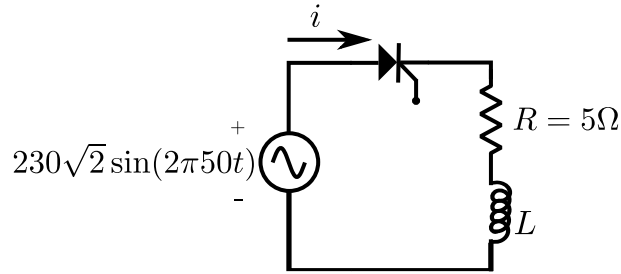

Fig. 1: Half-wave controlled rectifier feeding RL load.
1. A half-wave SCR controlled rectifier with a 230 V, 50 Hz input is feeding a RL load with  $R = 5\ \Omega$  as shown in Fig. 1. The SCR is triggered at a firing angle of  $45^\circ$  and the load current extinguishes at an angle of  $200^\circ$ . Find the circuit turn off time  $t_c$ , average output voltage and the average load current.